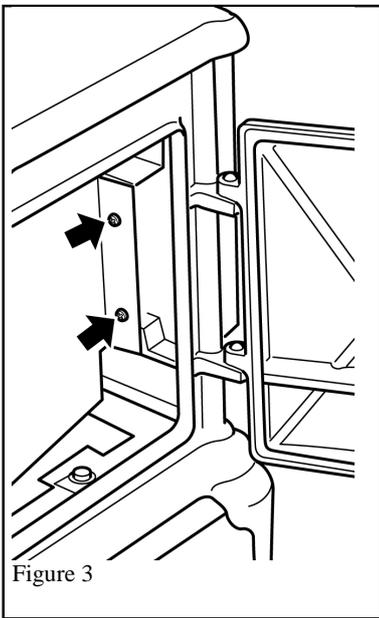

Figure 3
2. Remove the two screws from the ceramic support bracket. The side of the support bracket can now be removed. (See figure 3)